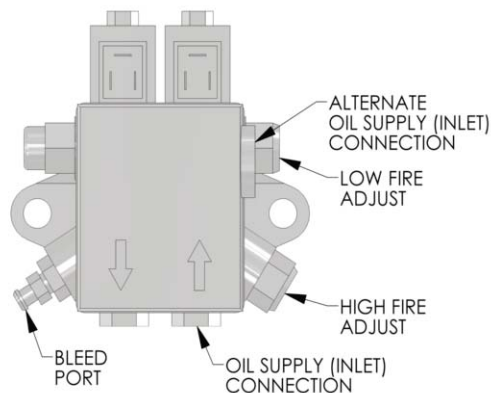

Figure 5.1
- Figure 5.1 shows the location of the low-fire pressure adjustment.
- The smoke sample should be zero (0) on the Bacharach scale.